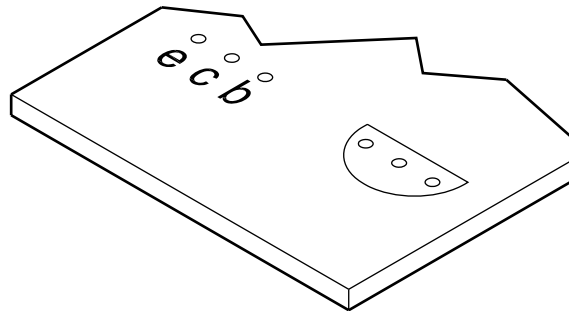

Fig. 10
- (c) PCBs will often have component positions marked to help with assembly. Fig. 10 shows two ways that a transistor position could be shown. Draw a circle around the better method for batch production work and give **two** advantages for your choice.